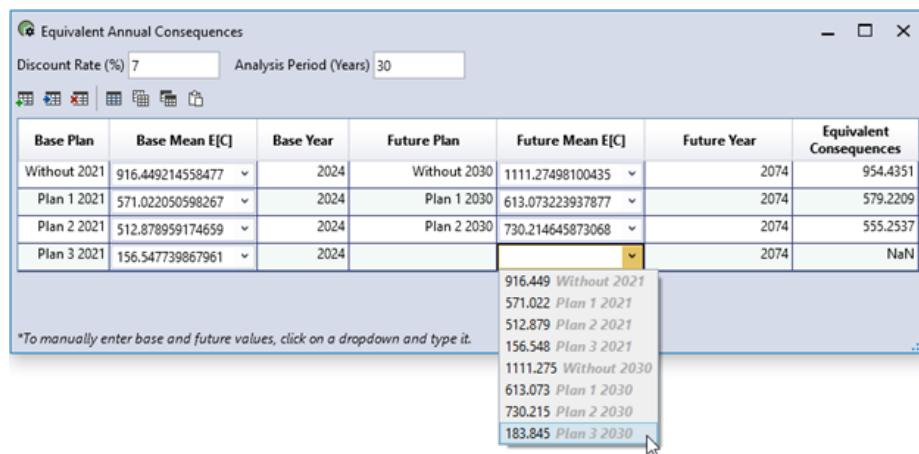

Figure 4.8: Equivalent Annual Consequences tool.
- **Equivalent Annual Consequences** (Figure 4.8) calculates equivalent annual consequences (EqAC) between two risk analyses. EqAC is required in USACE cost evaluation procedures [?]. The EqAC is automatically calculated when you define the analysis period (in years) and a discount rate (as a percentage), then select current and future risk analyses and the year those results represent. Use the table tools to add and remove EqAC calculations. You can also manually enter base and future plan results by clicking in the dropdowns and typing the value.